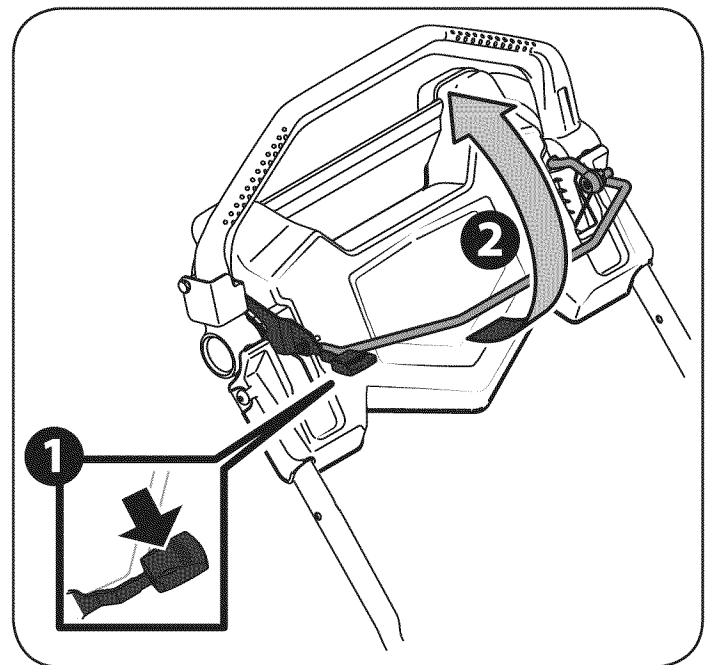

Figure 10
1. Once the engine is running, press down on the lockout lever. See Figure 10.
2. Pull the blade control back against the drive control. See Figure 10.